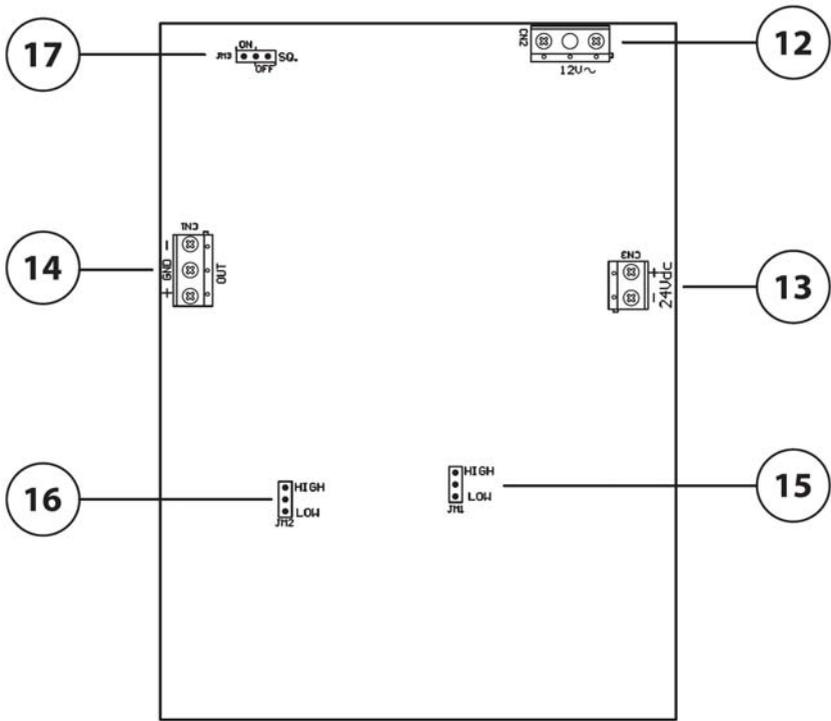

fig.2
- In case of traditional microphone use – Dynamic or Electret- Set the Jumper sensibility (fig.2 ref.15, ref.16) High configuration:
- In case of Dynamic or Electret microphone use and particular high level signal in output, set the jumper sensibility (fig.2 ref.15, ref.16) on Low configuration.
- The automatic Squelch activation (fig.2 ref.17), Jumper set on position ON reduces the back ground noise effects when the unit is not under use.
- DC 24V and AC12V terminal inputs connectors (fig.2 ref.12 e ref.13) for the unit power supply throughout an external low tension source.
- Audio Signal output terminal (fig.2 re.14) for balanced and unbalanced (as per figure 4) signal output.